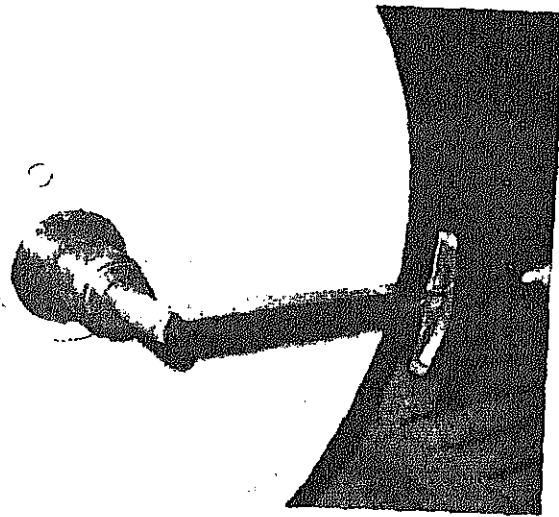

FIGURE 9-108.
g. Working at each end separately, tighten each slotted nut to 200 ft.-lbs. (27.7 kg-m) to 25 ft.-lbs. (3.5 kg-m), then retighten to 25 ft.-lbs. (6.3 kg-m) or next higher cotter pin (see figure 9-108).
- a. Lift axle shaft assembly so it is in the position of the steering yoke (see figure 9-108).